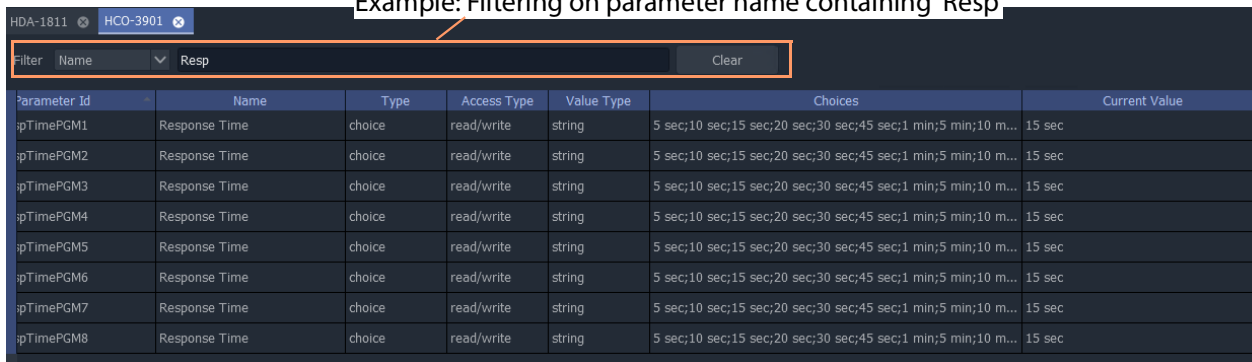

Fig. 3-11: Example Filtered Card Parameters
- 3 Use the filter controls to restrict the shown listed items. See Figure 3-11.